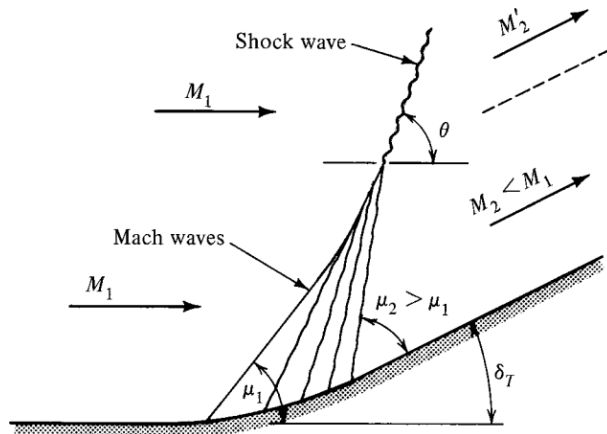

Figure 8.2
- 8.6** A smooth concave turn similar to that shown in Figure 8.2 turns the flow through a 30° angle. The fluid is oxygen and it approaches the turn at $M_1 = 4.0$.
From Figure 8.2 we gain $\Delta\nu = -30^\circ$, thus $\nu_2 = 35.78^\circ$.
(b) From Figure 8.2 we know $\delta = 30^\circ$.